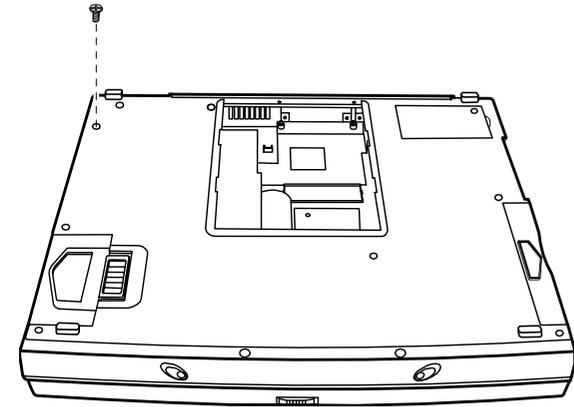

Figure 5-9. Removing One Screw
3. Remove one screw that fastens the CD-ROM/DVD-ROM drive. (Refer to Figure 5-9.)
2. Secure the CD-ROM/DVD-ROM drive with one screw. (Refer to Figure 5-9 earlier.)